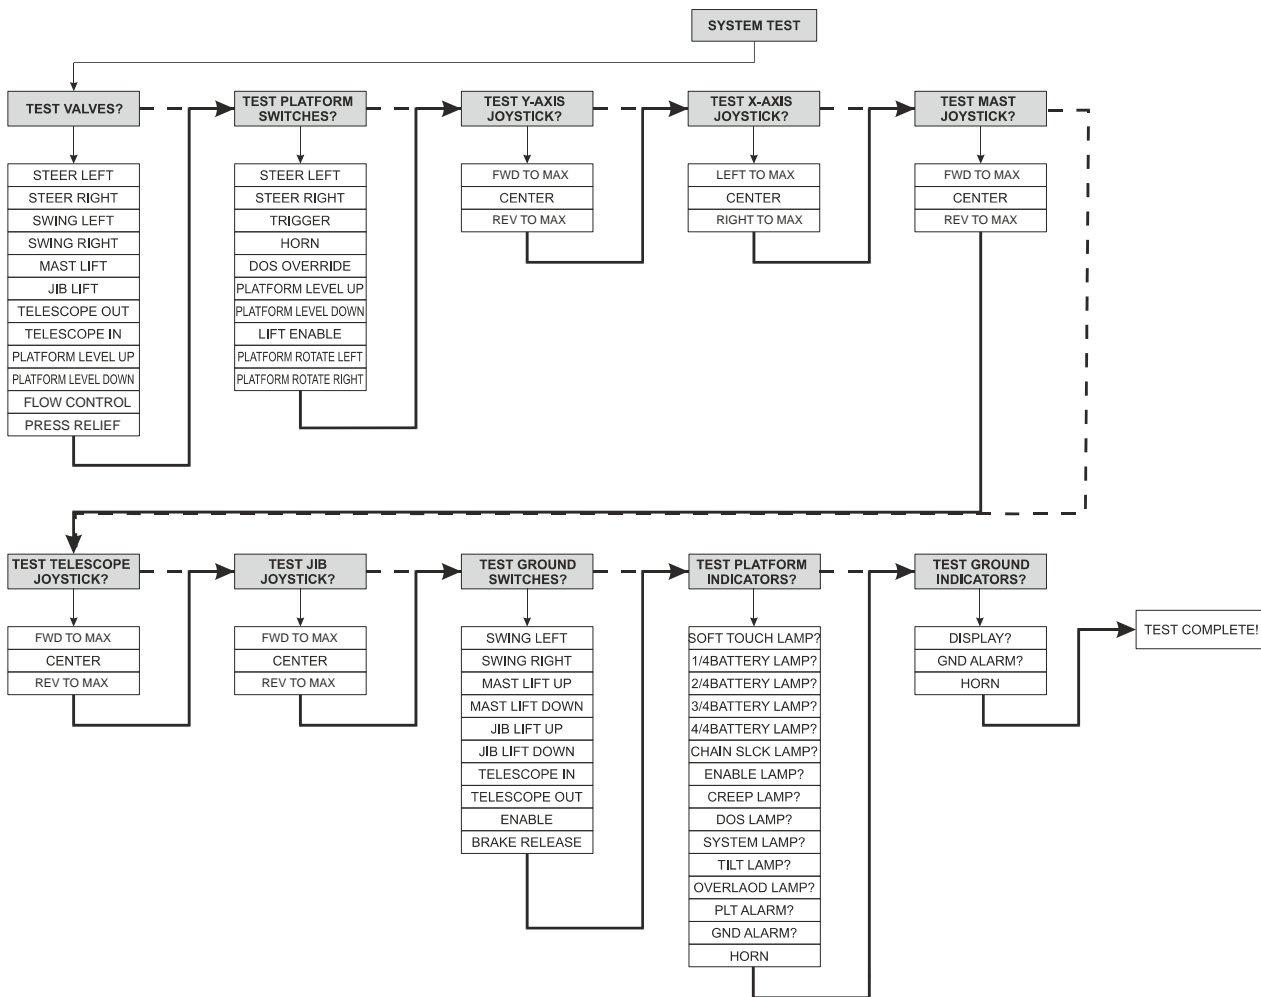

Figure 9-6. System Test Flow Chart
6. Follow the flow path in Figure 9-6., System Test Flow Chart and go through the component tests. Hit ESC key during any part of the test to return to the main menu without completing all tests or wait until all tests are complete. During the TEST SWITCHES sequence, the analyzer allows control switches to be operated and shows if they are closed (CL) or open (OP). During the TEST INDICATORS sequence, the operator is prompted to confirm (by pressing ENTER key) that the named lamp is lit.